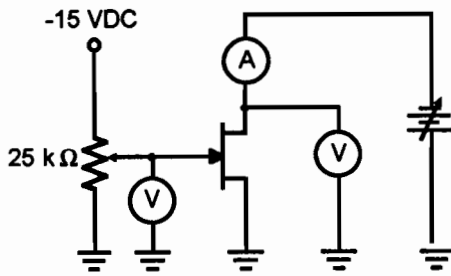

Figure 27.2
1. Construct the circuit in Figure 27.2.